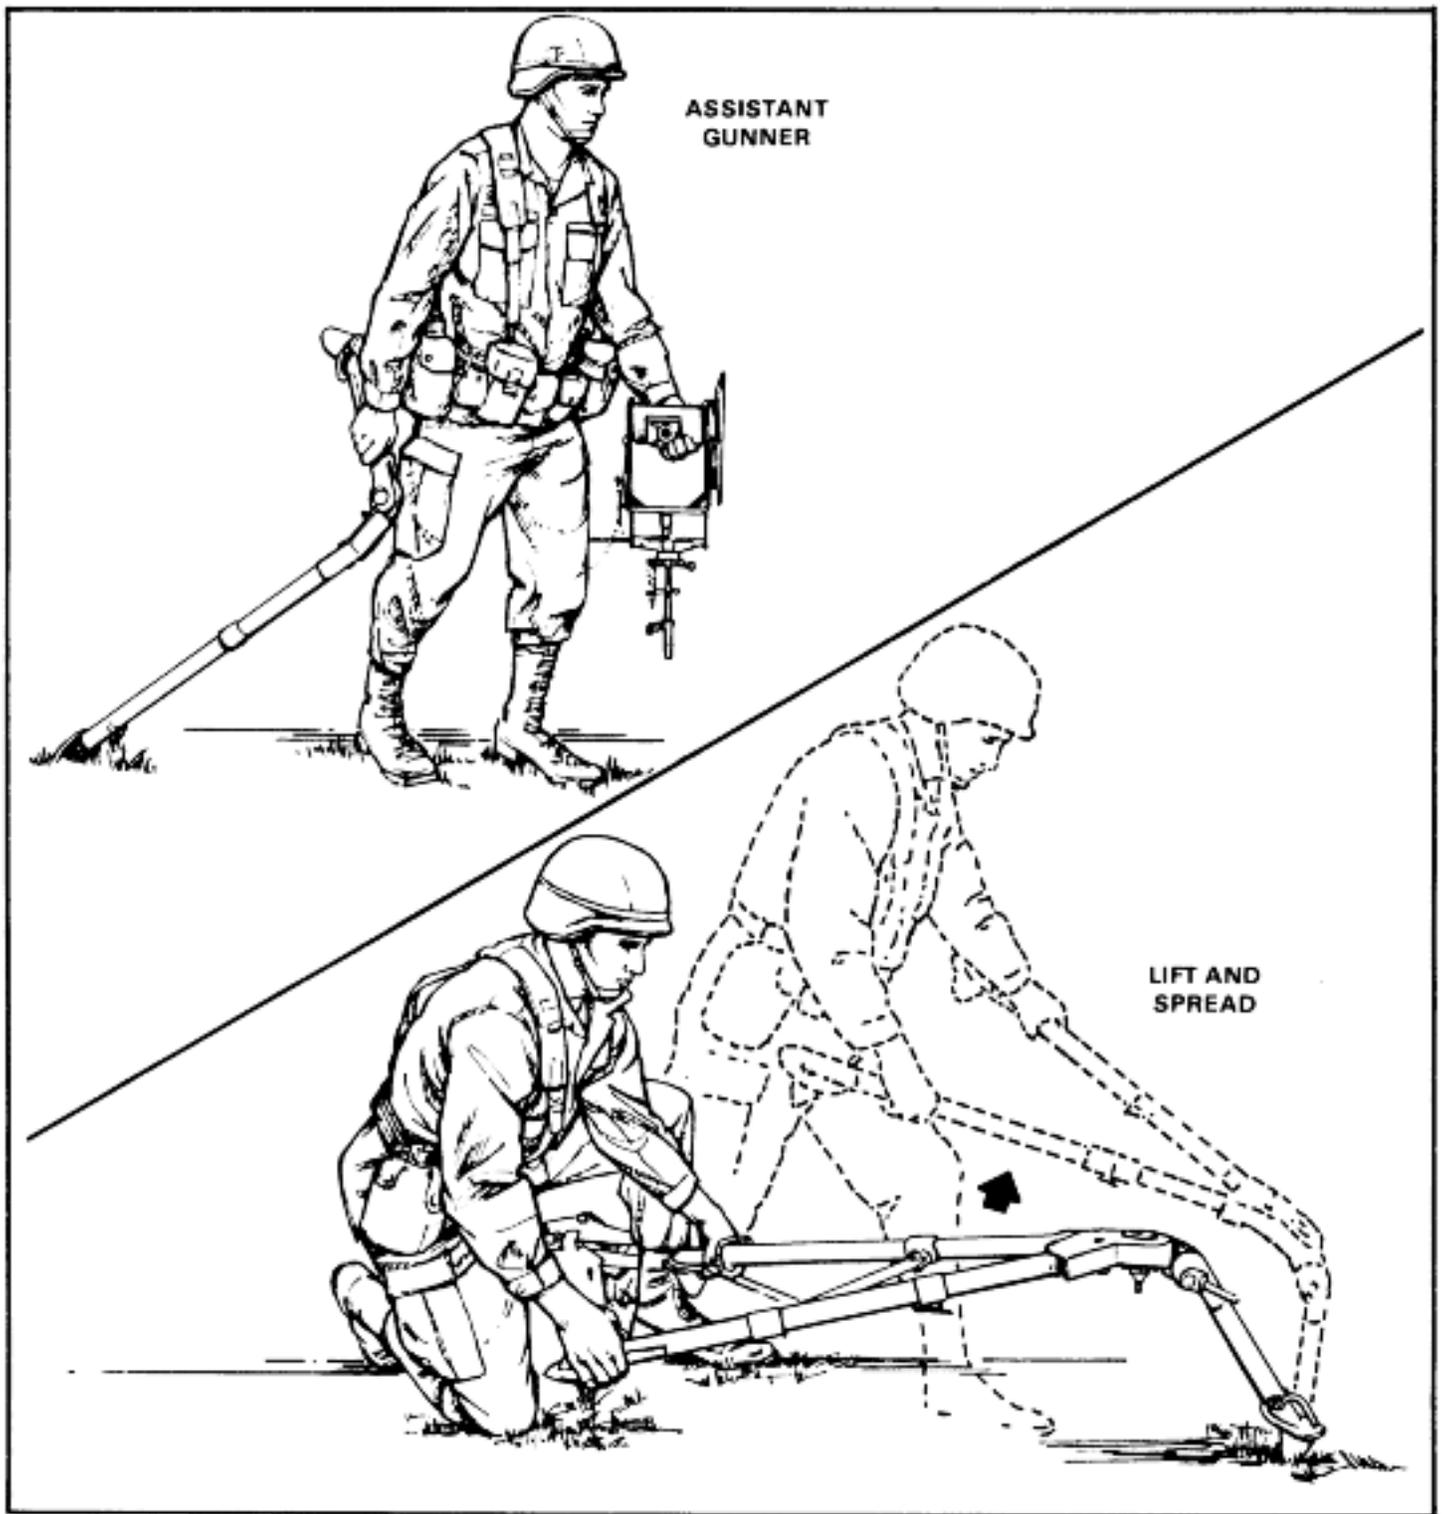
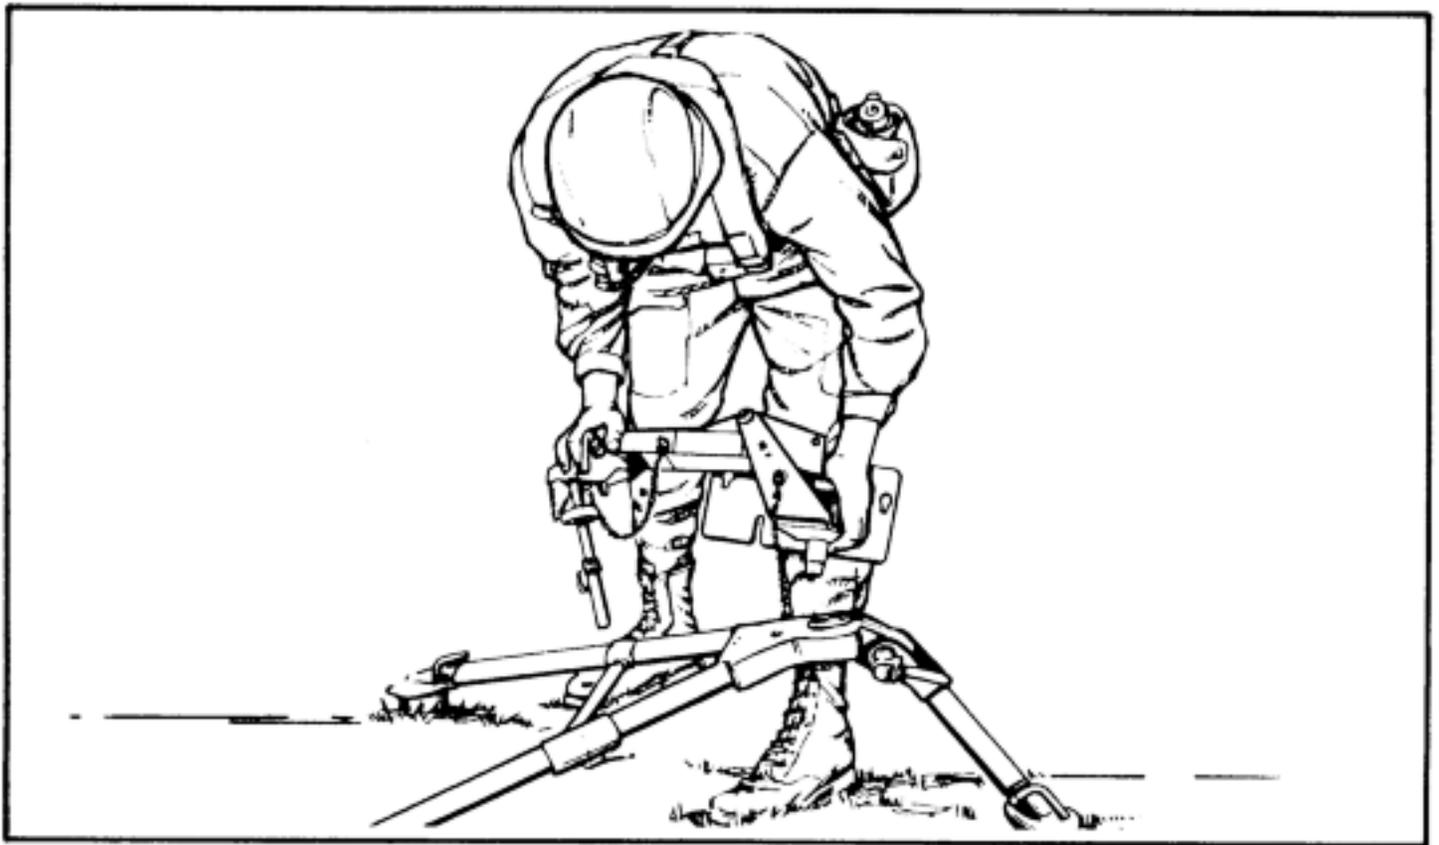
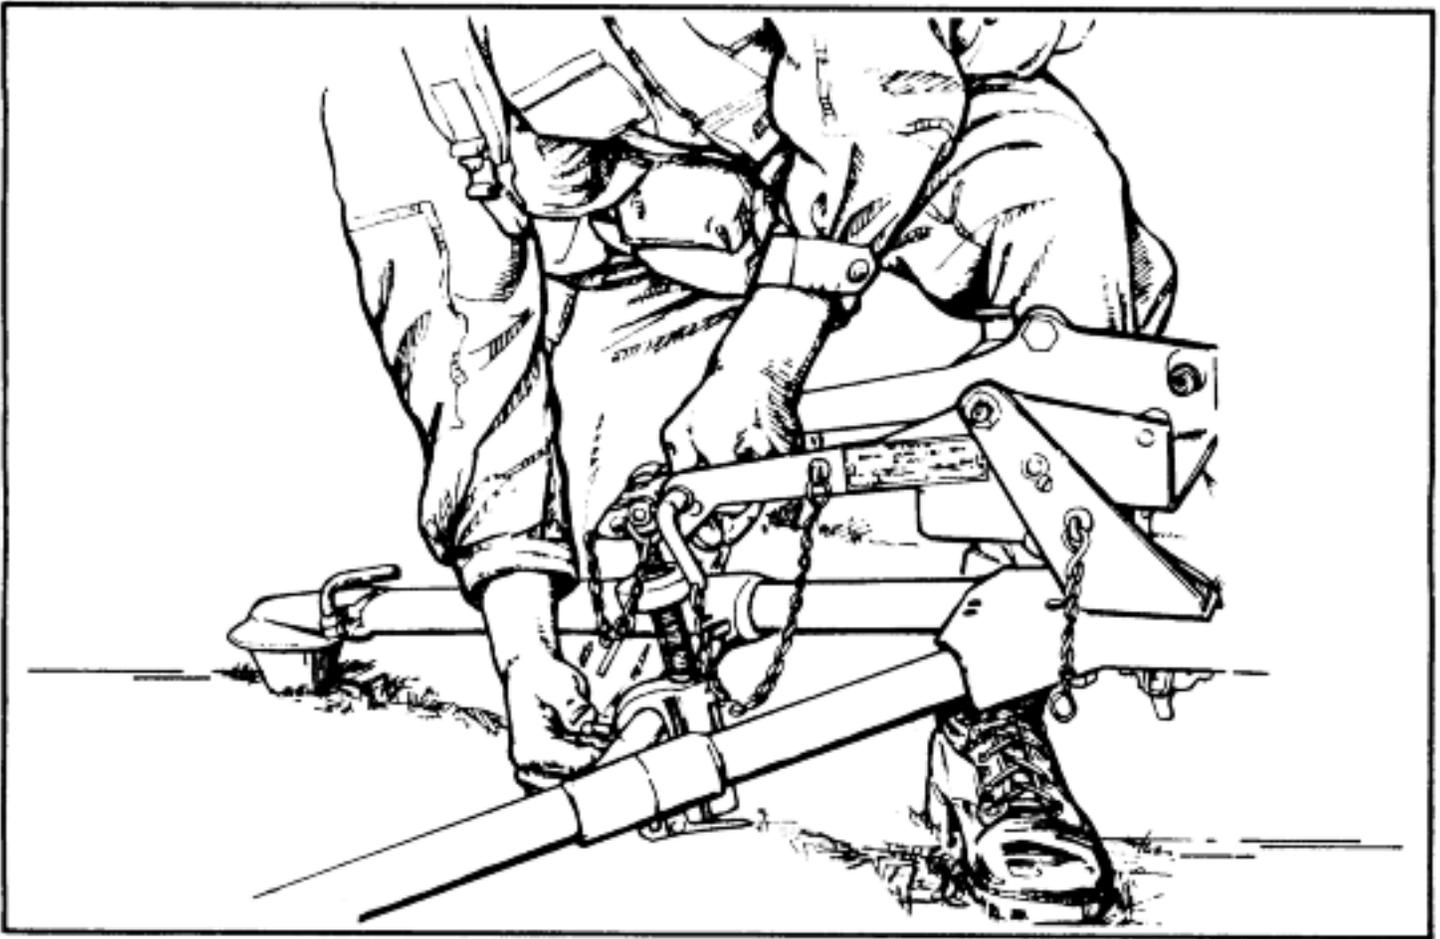

Figure 4-2. Positioning the tripod.
Figure 4-3. Mounting the MK 19 mount on the tripod.
Figure 4-4. Securing the T&E mechanism.
(1) At the command or signal ACTION, the assistant gunner drags the tripod to the firing position by its front leg with his right hand, and carries the gun cradle, T&E mechanism attached, in his left hand. When he arrives at the firing position, he aligns the front tripod legs for direction and, with one quick motion, snaps the trail legs apart. This action makes the sleeve lock-latch snap in place (Figure 4-2). He stamps each leg into the ground. He secures the gun cradle, with T&E attached, to the tripod, using the pintle lock release cam (Figure 4-3). He secures the T&E mechanism to the tripod, by locking the traversing slide lock lever (Figure 4-4). He helps the gunner mount and load the MK 19.